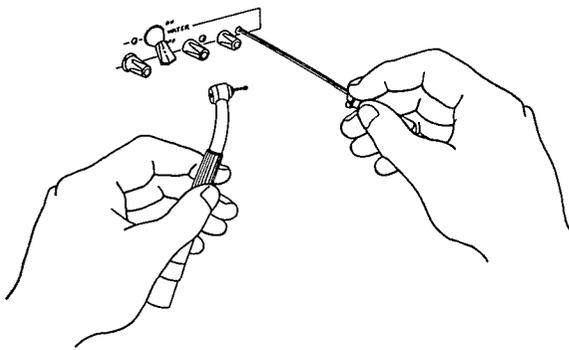

FIGURE 20
1. The drive air pressure adjusting screws are next to the water coolant knobs on the faceplate of the unit (Figure 20). A 3/32-inch hex wrench will fit these screws.